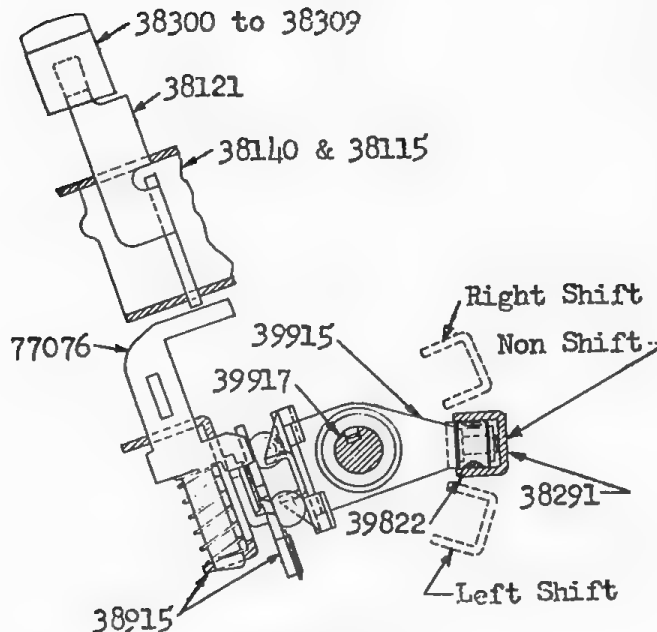
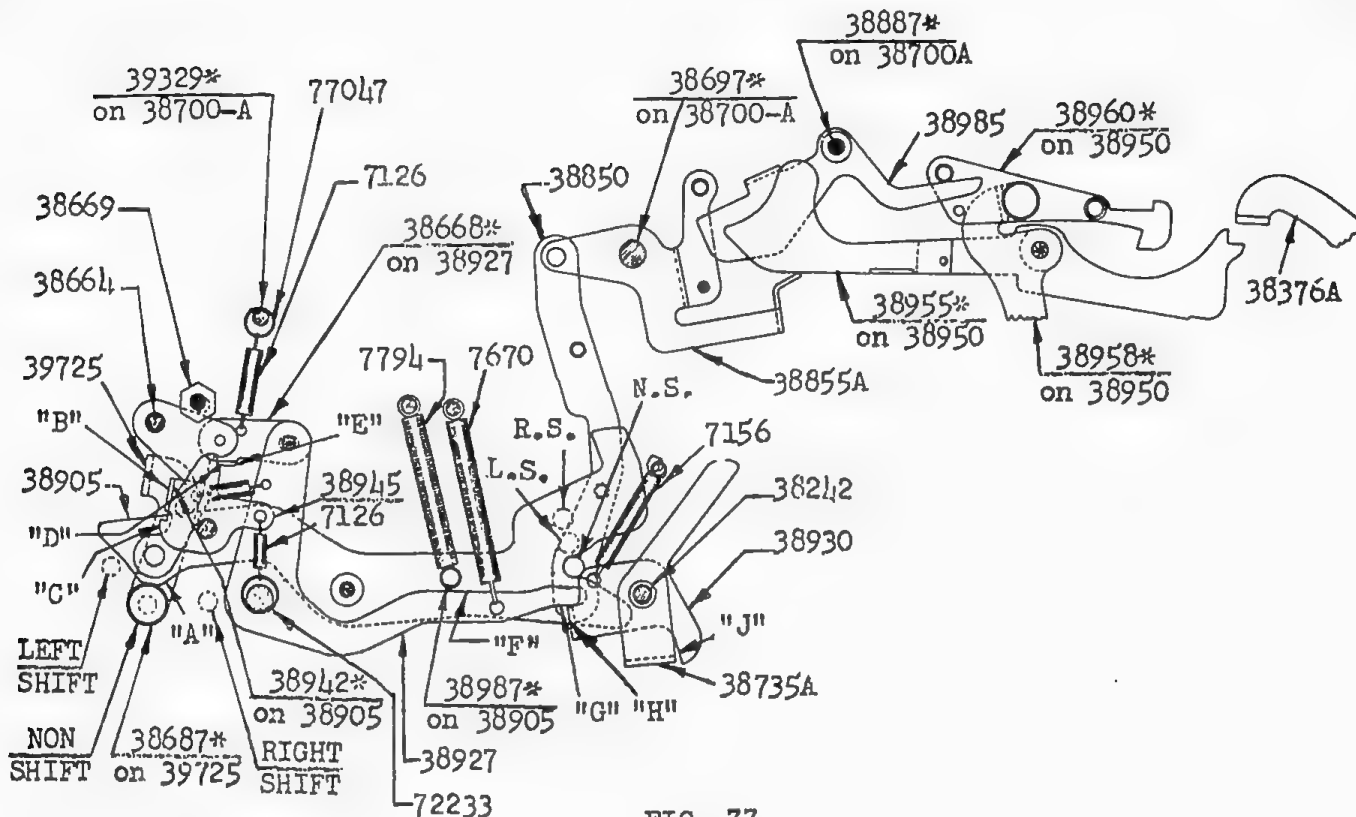
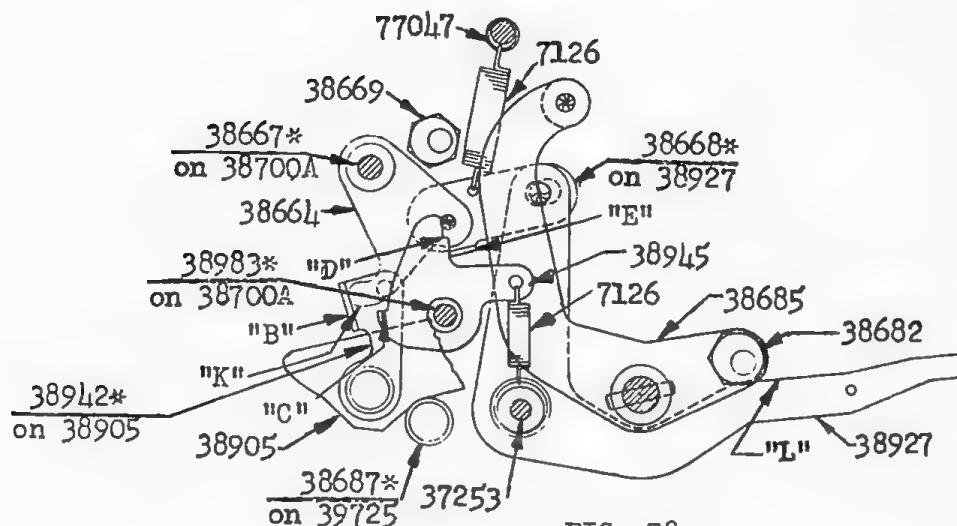

FIG. 76
FIG. 77
FIG. 78
1. (Fig. 76). Depression of a Decimal Key-38121 lowers the tab Key Stem-77076 and controls the position of the Tab Control Bail-
2. (Fig. 77). The Arm-39725, which is fastened to the Tab Control Bail-38291 (Fig. 76), carries a Roller-38687* which positions the Tab Control Lever-38905. When
3. (Fig. 77). The rearward extending arm "G" on 38927 overlies ear "H" on the Shift Starting Bell-crank 38930. When 38927 rocks counter-clockwise it allows 38930 to rock clockwise under tension
4. (Fig. 78). Link 38664, which rocks clockwise when 38668* is released, has a nose "K" which then rocks the Dog-38942* through ear "B" in such a manner that ear "B" is removed from over surface "C" on 38945. This action frees 38945 so that it can again latch ear "E" on 38668* when the Shift Assist Lever-38927 is re-
5. (Fig. 78). The Booster Restore Lever Pinning-38685 is rocked clockwise during the Setting Cycle, (See Section III-Para. B, page 1244), causing Eccentric-38682 to contact surface "L" on the Shift Assist Lever-38927, rocking it clockwise. This allows the toggle arrangement of 38668* and 38664 to be straightened by Spring-7126 until 38664 stops on Eccentric-38669. Ear "E" can then be latched by surface "D" on 38945.
1. (Figs. 76, 77). If a Decimal Key to the left of the present decimal position is depressed the Tab Control Bail-38291 and its attached Arm-39725 rock counter clockwise moving Roller-38687* to the "RIGHT SHIFT" position indicated in Fig. 78. This allows the Tab Control Lever-
2. (Fig. 77). If a Decimal Key to the right of the present decimal position is depressed the Roller-38687* moves forward to its "LEFT SHIFT" position, allowing 38905 to rock clockwise to a position half-way between non-shift, (where 38955* is held clockwise out of the path of 38376A), and right shift, (where 38985 is rocked counter-clockwise), leaving the shift directional mechanism in its normal left shift position.
1. (Figs. 76, 77 & 79). When the Tab Traveller-39915 approaches the new decimal order it rocks the Arm-